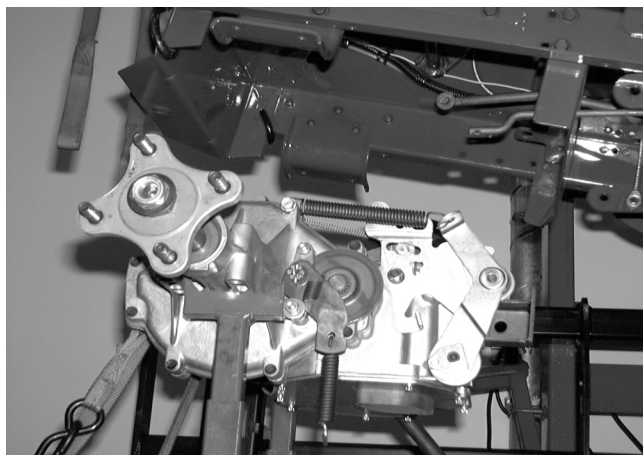

FIGURE 10.
27. Slowly lower the hydrostatic transmission from the tractor. See figure 10.